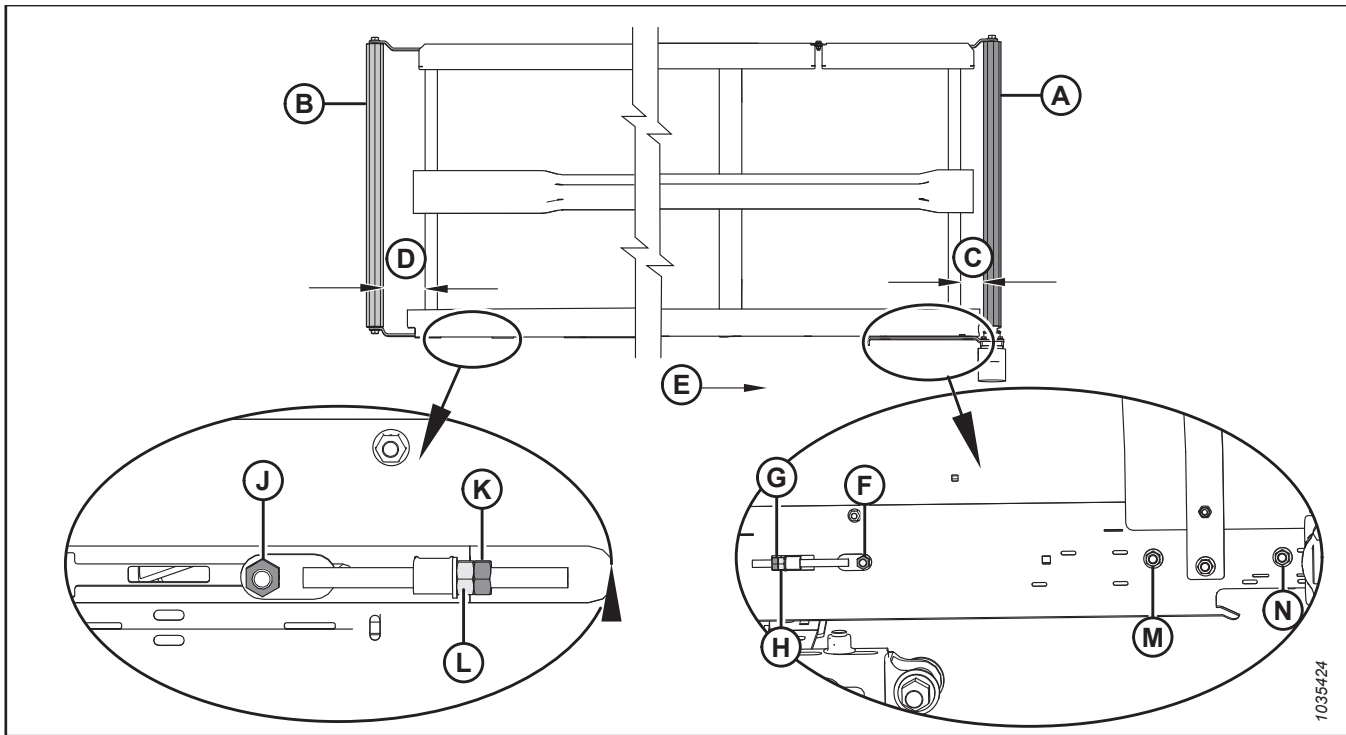

Figure 4.252: Draper Tracking Adjustments – Left Draper
2. Adjust drive roller (A) to change **C** (refer to Table 4.2, page 420 and Figure 4.252, page 420) as follows:
- a. Loosen nuts (F), (M), and (N), and jam nut (G).
- b. Turn adjuster nut (H).
- c. Tighten nuts (F), (M), and (N), and jam nut (G).
3. Adjust idler roller (B) to change **D** (refer to Table 4.2, page 420 and Figure 4.252, page 420) as follows:
- a. Loosen nut (J) and jam nut (K).
- b. Turn adjuster nut (L).